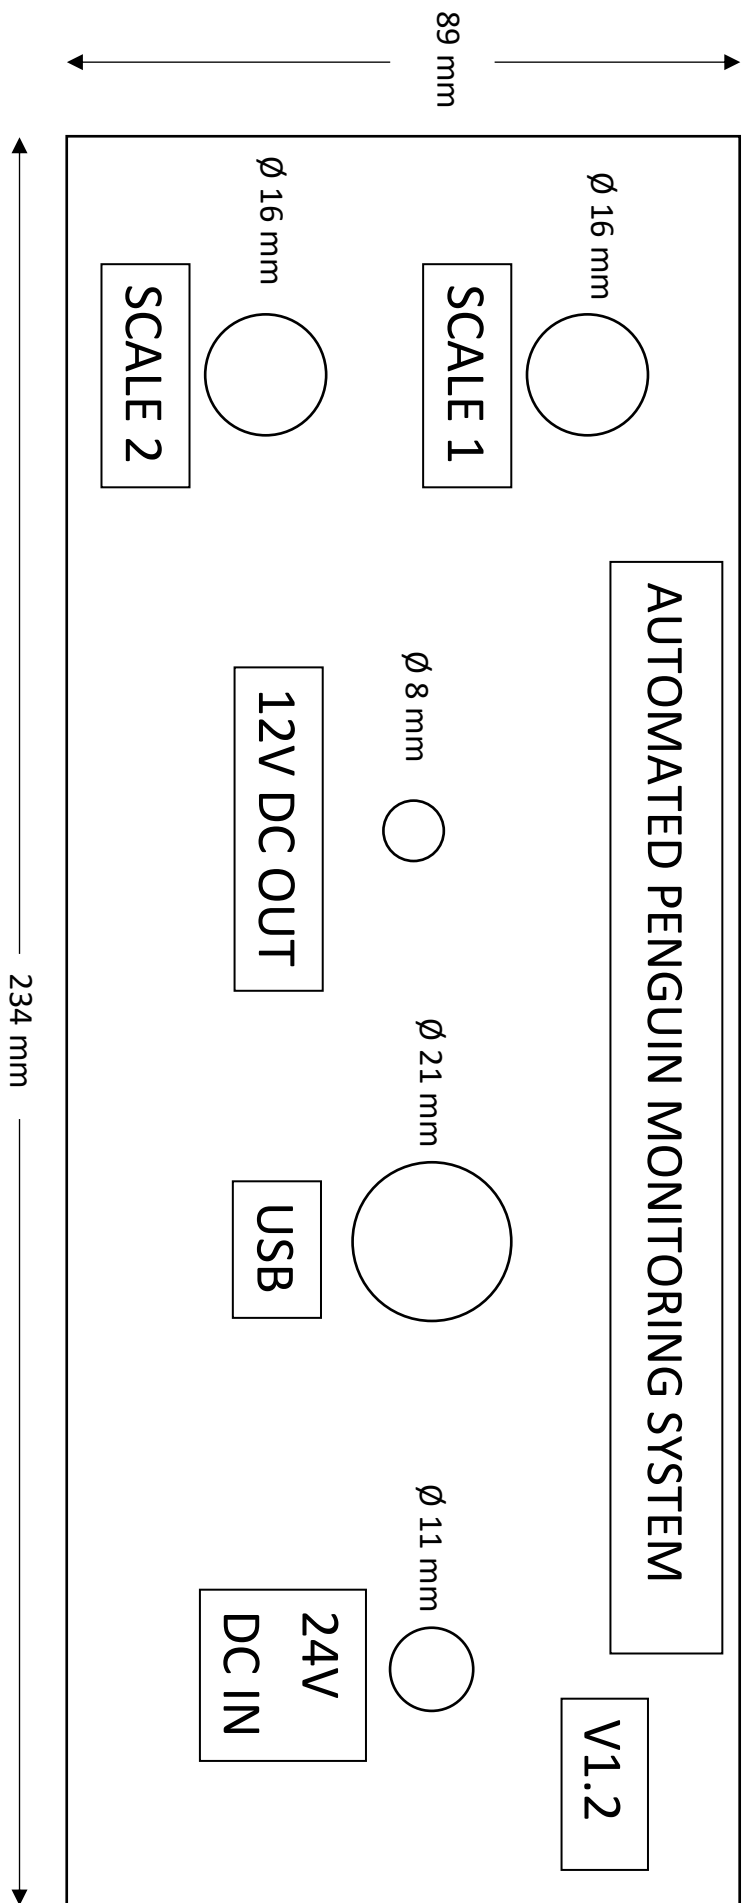

Figure 35 - Front Template
- Print the template seen in FIGURE 35 - FRONT TEMPLATE. Check the dimensions with a ruler after printing.